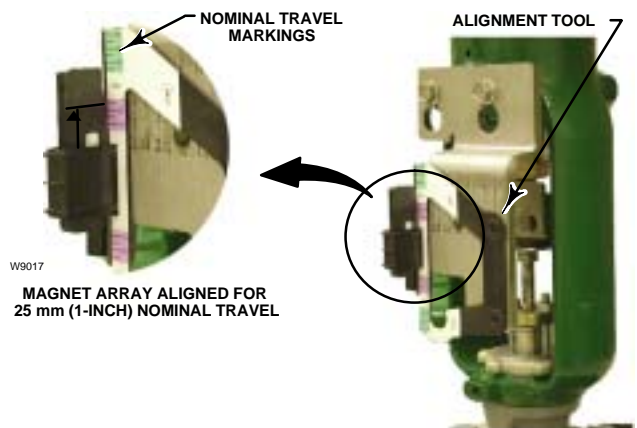

Figure 2-5. Air-to-Close Magnet Array Alignment
4. Find the mark on the **upper** travel scale that corresponds with the actual valve travel. See figure 2-5.